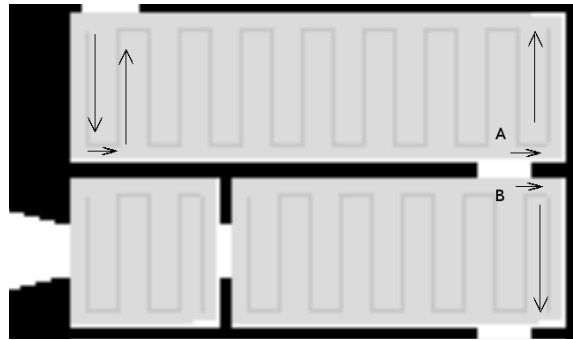

FIGURE 4: COVERAGE OF A ROOM IN THE COMPLETE MAP.
Figure 4 illustrates covering a room. The dark gray pixels are where the robot is moving and the light gray area is what the robot has covered. The coverage is done in the following steps
- If it is position of the lower right corner of the  $Q_{room}$ , then turn 90 degrees to the left and keep moving until the robot has the same position as the upper right corner of the  $Q_{room}$  (Case A on figure 4). The room is fully covered and the robot can move to the next room.
- If it is position of the upper right corner of the  $Q_{room}$ , then turn right 90 degrees and keep moving until the robot has the same position as the lower right corner of the  $Q_{room}$  (Case B on figure 4). The room is fully covered and the robot can move to the next room.